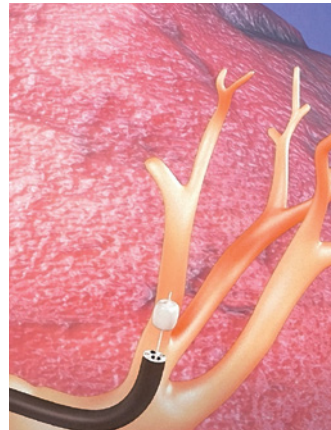

Figure 3. Inflation of a balloon in an airway to test for an air leak and to size the airway.
The first thing your doctor will do is insert a narrow, flexible tube with a camera on the end (bronchoscope, see Figure 2) through your mouth or nose. The camera helps your doctor see inside your airways. Next the doctor will put another narrow, flexible tube with a small balloon on the end (balloon catheter) through the bronchoscope and into your airways. The balloon does two things: (1) when it is inflated it will briefly block the airway to show if it leads to the leaking tissue (see Figure 3) and (2) it will measure the size of that airway. Your doctor will use this information to choose the best valve sizes to fit your airways.